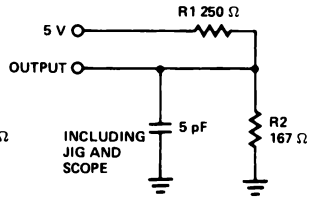

Figure 1b
7. t_{HZCS} is tested with load shown in Figure 1b. Transition is measured at steady state High level + 500 mV or steady state Low level + 500 mV on the output from the 1.5V level on the input.